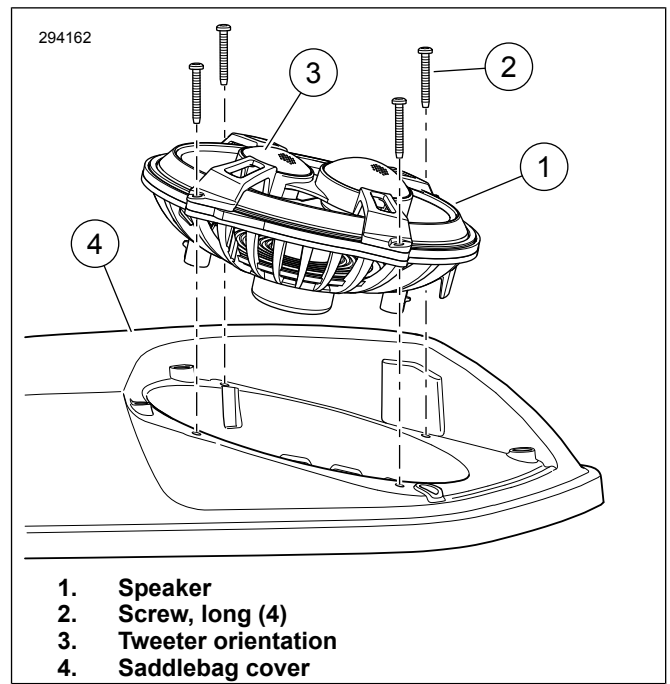

Figure 7. Speaker Orientation
13. See Figure 7. Position the smaller tweeter speaker (3) toward the rear of the saddlebag as shown.
14. Secure the speaker (1) with the four long screws (2). Alternately tighten screws to: